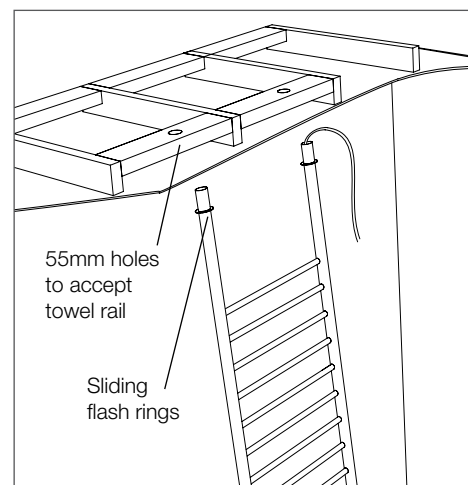

Fig 1.0
- The top of the rail is supported by timber blocking in the ceiling 150x50 or similar and 55mm holes need to be drilled to accept the towel rail. Typical installation see Fig 1.0.